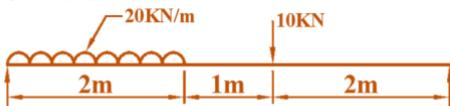

Fig.P7.17
9. A simply supported beam of length 8m is loaded as shown in fig.P7.17. Construct the SFD and BMD.